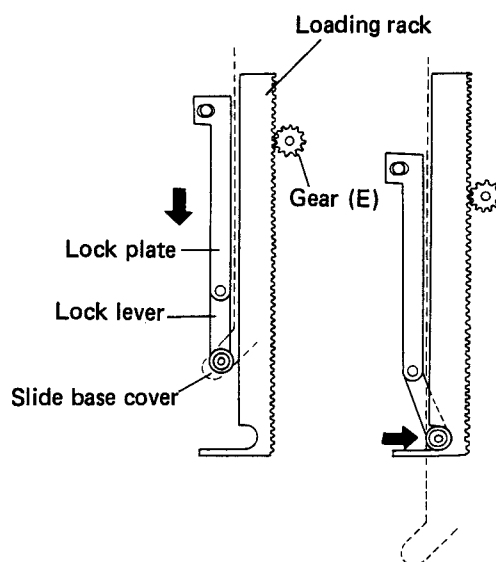

Fig. 2-1 Loading out operation
2. When the slide base is in the normal inserted position, the lock lever at the back is pulled forward by the U-shaped section of the slide base cover and the wall of the loading rack (see Fig. 2-1).
3. When the lock lever and lock lever roller are moved by about 25mm, the lock lever roller falls into the U-shaped section of the lock lever, thereby halting the lock lever and lock plate (again see Fig. 2-1).